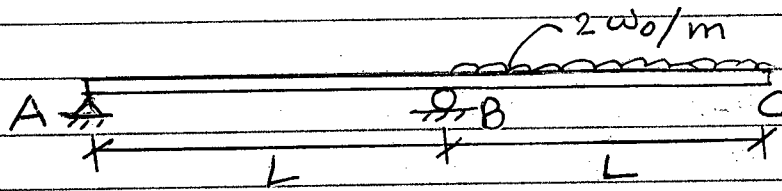

FIG. 1
1. An overhanging beam of constant flexural rigidity  $EI$  is loaded as shown in Fig. 1. Find the elastic curve equation for the portion of the beam AB between supports. Determine the maximum deflection between supports and compare it with the deflection midway between supports. (26 ¼)